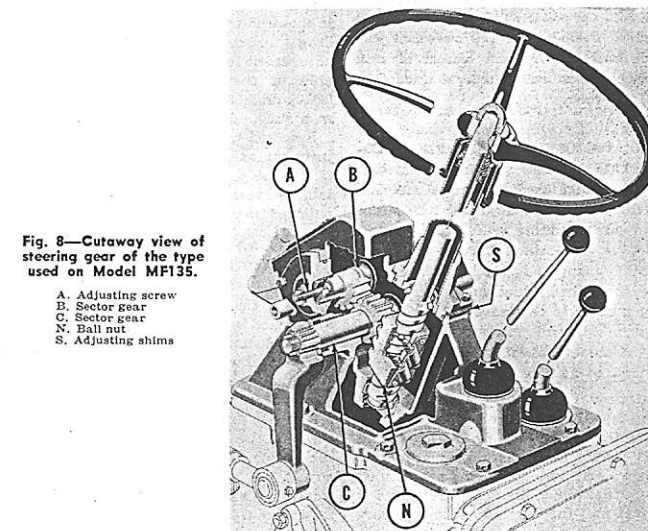

Fig. 8—Cutaway view of steering gear of the type used on Model MF135.
9. BACKLASH ADJUSTMENT. Teeth of sector gears (B & C—Fig. 8) are slightly tapered for backlash adjustment. Proceed as follows:
10. WORMSHAFT BEARING ADJUSTMENT. The steering wormshaft ball bearings used on manual steering models should be adjusted to a slight preload by adding or removing shims (S—Fig. 8) located between steering shaft housing and gear housing. Steering shaft thrust load on power steering models is carried on thrust bearings at steering control valve and a slight amount of end movement is required to actuate the valve.